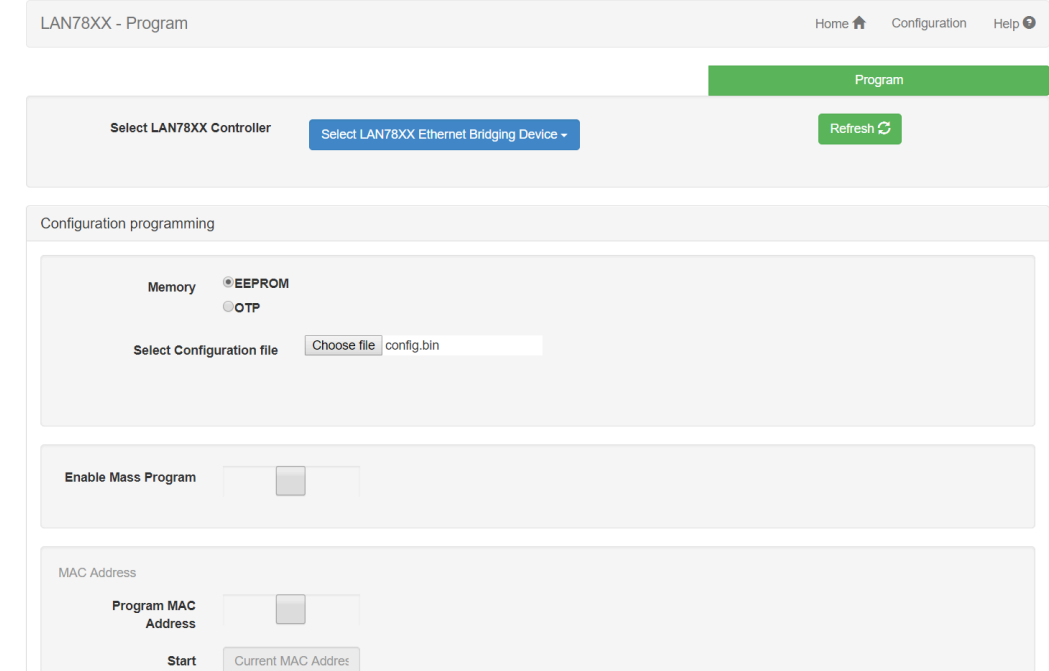

Figure 12: The Program Page
- In the Program Page, select the LAN7800 device that should appear when USBBlox is connected to your PC. Then select the binary file you have just written to, and click “Program”, as shown in figure 12.